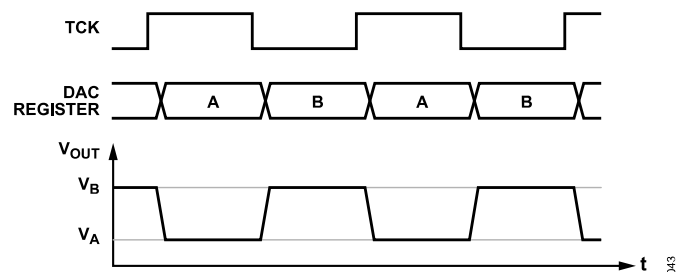

Figure 54. TCK Timing
When the TCK signal is high the DAC outputs a voltage (V_A) corresponding to Input Register A, and when TCK is low, the DAC outputs a voltage (V_B) corresponding to Input Register B (see Figure 54). The toggle function can be disabled by writing 0x0000 to the toggle/dither enable register (Command 11).
- Apply the toggle clock signal to the TGP2 pin. The DAC output voltage changes on the rising and falling edges of the toggle clock signal as shown in Figure 54.